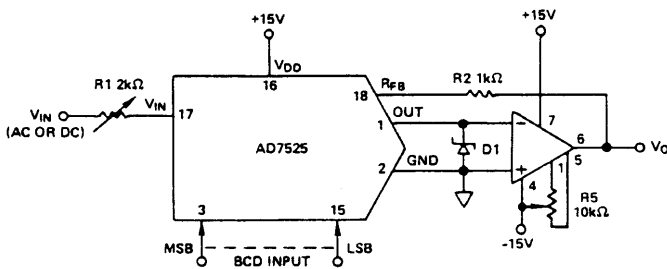

Figure 4. Digitally Controlled Attenuator Circuit
3. The inputs of some IC amplifiers (especially high speed types) present a low impedance to  $V-$  during power sequencing. To prevent the AD7525 OUT terminal (pin 1) from exceeding  $-300\text{mV}$  (which causes catastrophic substrate current), a Schottky diode, HSCH 1001 or equivalent, is recommended. While not required for most amplifier types, provision for the diode should be made during layout. The diode should be connected between OUT (pin 1) and GND (pin 2) as shown in Figure 4. Protection Schottkys not required when using TRI-FET output amplifiers such as the AD542 or AD544.